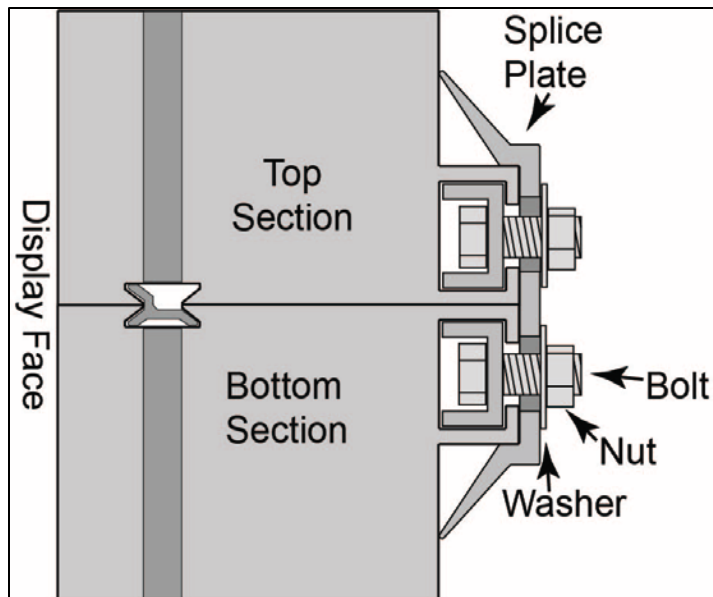

Figure 15: "V" Style Splice Plate
- Note:** There are two different styles of splice plates shipped on the display. The flat splice plates need to be distributed along the back of the display and placed on each end of the display. The “V” style splice plate provides support to the bottom display section when lifting and is shipped installed directly below the lift eyes. Refer to **Figure 15**.